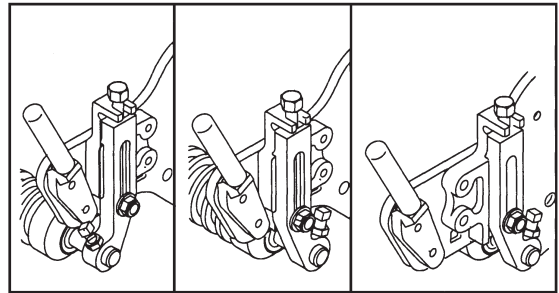

Figure 9
**Note:** The front roller can be put in three different positions (Fig. 9) depending on the application and your needs.